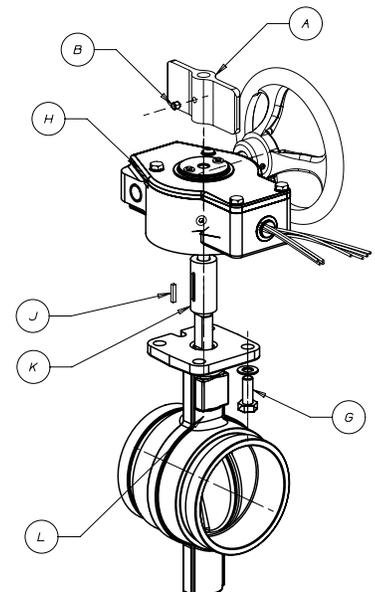

Fig. 9
1. See Figure 9 - Remove Flag (A) by backing out (approximately 2 turns) socket screw (B).
2. Remove four hex head cap screws (G) that fasten gear operator (H) to the valve.
3. Lift the gear operator straight up from the valve. In most cases the adapter bushing (K) will stay in the gear operator segment gear because the broken key causes interference with the gear ID and the adapter bushing.
4. Pull the adapter bushing (K) from the gear operator. Some force may be required.
6. Place new key (J) into adapter bushing (K) keyway and slide adapter bushing into segment gear while aligning key with segment gear keyway.
8. Secure gear operator to valve using four hex head cap screws (G). Replace flag (A) on stem and secure by tightening set screw (B).